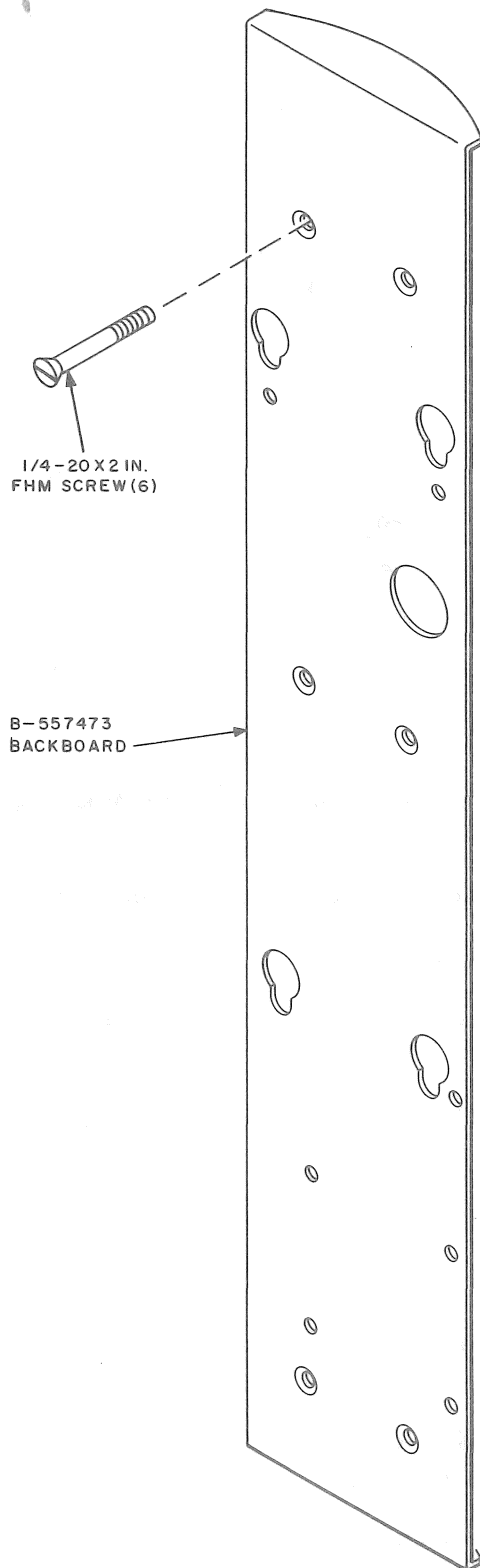

Fig. 4—KS-19206, List 7 Coin Telephone Set Installation Kit
- 3.17** *List 7 Kit:* Install KS-19206, List 7 kit in accordance with Fig. 4.